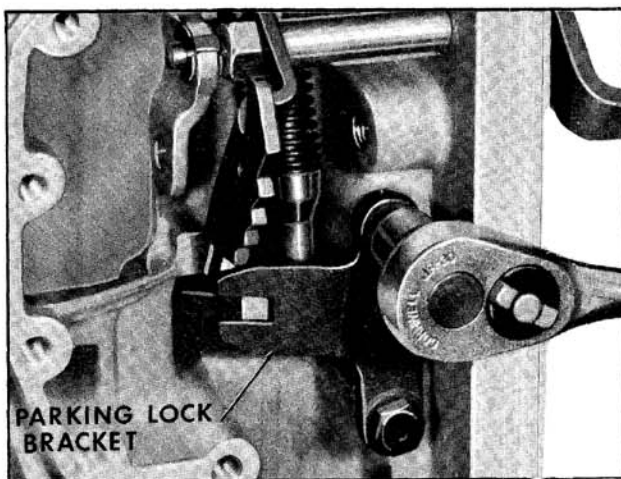

Fig. 6-486 Installing Parking Lock Bracket
7. Install parking bracket to transmission case. Torque bolts 8 to 12 ft. lbs. (Fig. 6-486)